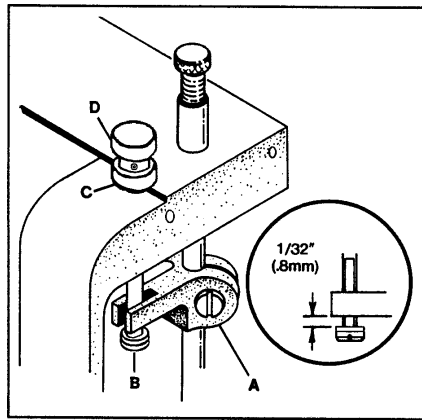

FIG. 37
When sewing on extremely lightweight material and/or feed cutting is a problem, the presser foot may be "hung" by raising stud (B) until guide (A) rests on the shoulder of stud (B). This adjustment will raise the presser foot slightly, so only the pressure of the presser foot shoes contact the material. Turn handwheel in operating direction until the feed dogs are below the throat plate surface. At this time there should be a 1/32" (0.8mm) clearance between the bottom of presser bar guide (A, Fig. 37) and presser bar guide stud (B). To hang presser foot, loosen lock nut (C Fig. 37) and turn thumbscrew (D Fig. 37) so that the foot comes up slightly, tighten nut (C Fig. 37).